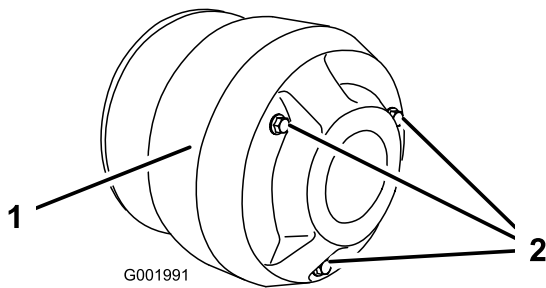

Figure 58
4. Remove the 3 bolts securing the cover to the clutch and remove the cover (Figure 58).